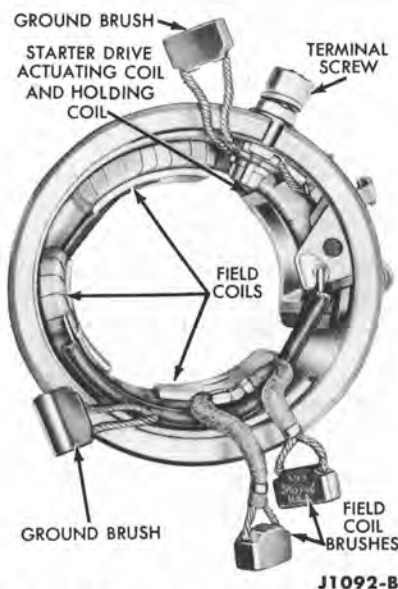

FIG. 13—Field Coil Assembly
1. Install the starter terminal, insulator, washers, and retaining nut in the frame (Fig. 13). Be sure to position the slot in the screw perpendicular to the frame end surface.
7. Position the ground brushes to the starter frame and install the retaining screws (Fig. 13).
10. Solder the new field brushes to the field coils using rosin core solder (Fig. 13). Use a 300 watt iron.